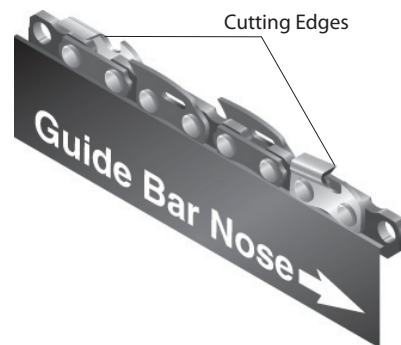

Figure 37 - Correct Installation of Saw Chain
4. Place new chain around drive sprocket, along top groove of guide bar, and around guide bar nose. *Note:* Make sure cutting edges of chain are facing in right direction. Position chain so cutting edges on top of guide bar face guide bar nose (see Figure 37 and indicator on side cover of saw).